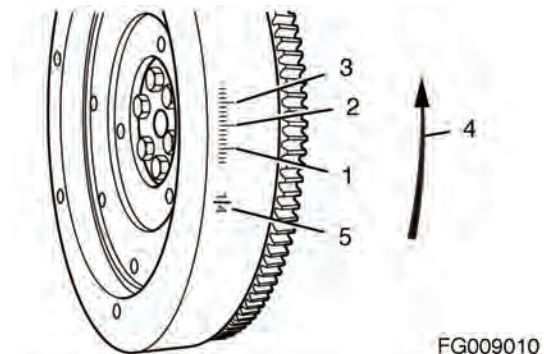

Figure 279
7. Typical flywheel markings are as shown in (1, Figure 279).
The flywheel shown in Figure 279 is for a "Standard Specification" DI engine. Flywheels used on some "OEM Specific" DI engines may be marked differently. You should contact that specific OEM for information on the identification of the timing marks.